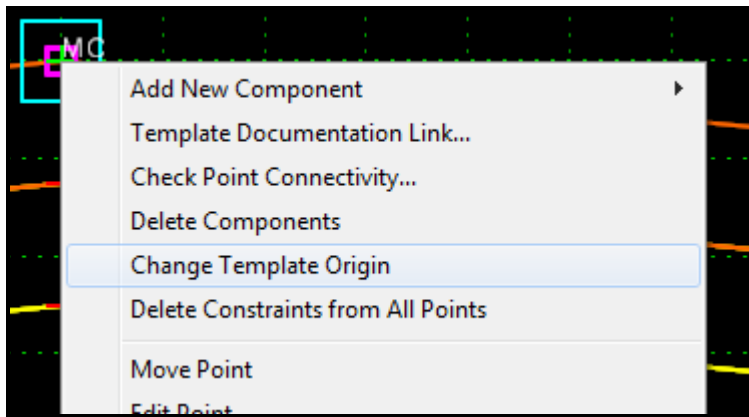

Figure 15-45: Change Template Origin
Important: If the template centerline point is not at 0, 0 within the gridded display, but you used the magenta box, the Dynamic Origin is the issue. You can reset the **Dynamic Origin** to 0,0 and/or set the **Template Origin** (Figure 15-45) by right clicking the centerline point (MC) and selecting **Change Template Origin**.